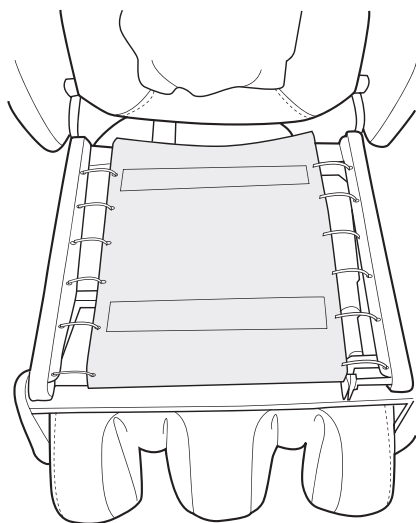

Fig.1
1. Pull up on the seat pad to remove it from the chair (Fig.1).